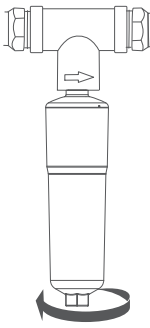

Figure 1
2. Unscrew the cartridge to the left as shown in the illustration (Figure 1).